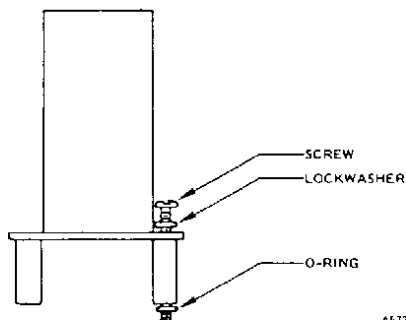

Figure 21—Tube Module Anchoring Screws
- Slide the screws through the mounting sleeves on the tube module from the sensor side of the printed circuit board. (See Figure 21.)